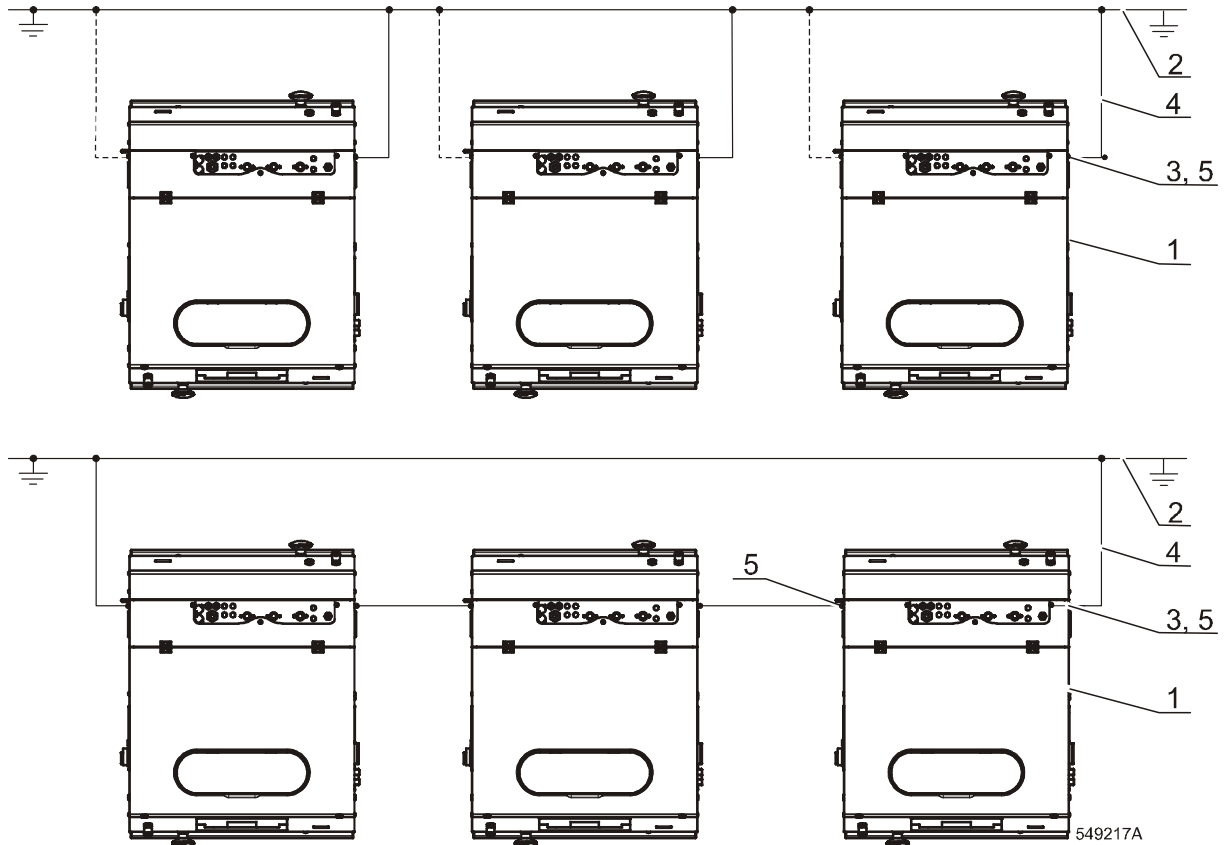

Figure 31
Independent of the supply cable, the washer must be connected to the laundry protective earth system with a separate conductor. The protection conductor, enabling this connection, is not included with the washer. If there are other washers/appliances with exposed conductive parts, which can be touched simultaneously, make sure to make equipotential bonding between all these appliances. The external protective terminal for this purpose is located on the side panel of the machine frame, (Figure 31., pos.3). The minimum protection conductor's cross section depends on the supply cable cross section and can be found in Table 14. However, for the protection purposes with the supply cable section of min. 4 mm² we recommend to select a larger conductor section, i.e. 6 mm².